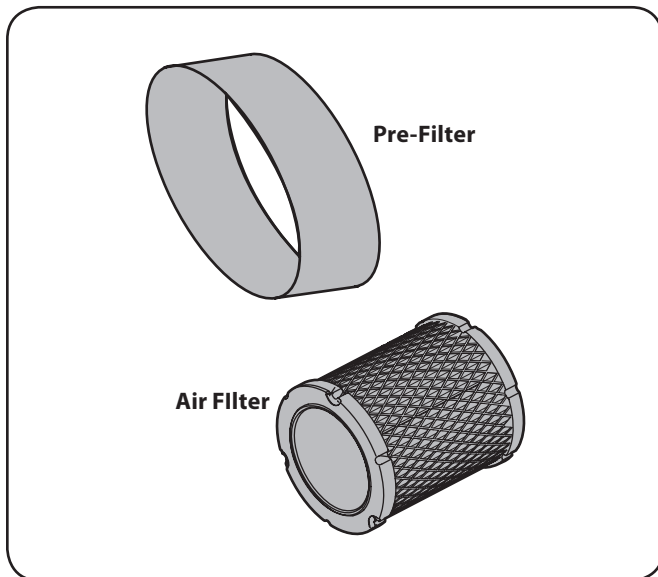

Figure 6-6
4. Remove the foam pre-filter from around the paper air filter. See Figure 6-6. Replace paper element when dirty or damaged. Clean foam element or replace when damaged.